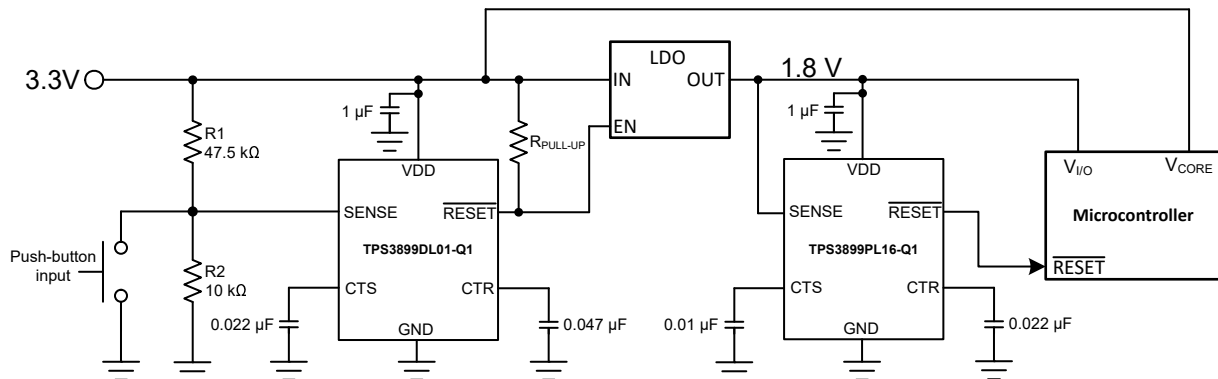

Figure 8-1. TPS3899-Q1 Voltage Rail Monitor and Power-Up Sequencer Design Block Diagram
A typical application for the TPS3899-Q1 is voltage rail monitoring and power-up sequencing as shown in Figure 8-1. The TPS3899-Q1 can be used to monitor any rail above 0.8V. In this design application, two TPS3899-Q1 devices monitor two separate voltage rails and sequences the rails upon power-up. The TPS3899DL01-Q1 is used to monitor the 3.3V main power rail and the TPS3899PL16-Q1 is used to monitor the 1.8V rail provided by the LDO for other system peripherals. The $\overline{\text{RESET}}$ output of the TPS3899DL01-Q1 is connected to the enable (EN) input of the LDO with an external pull-up resistor $R_{\text{PULL-UP}}$ to the 3.3V power rail. The $\overline{\text{RESET}}$ output of the TPS3899PL16-Q1 is connected to the ($\overline{\text{RESET}}$) input of the microcontroller. A reset event is initiated on either voltage supervisor when the VDD voltage is less than V_{IT} , falling threshold voltage. For a system reset event, a push-button input is placed at the SENSE pin of the TPS3899DL01-Q1.